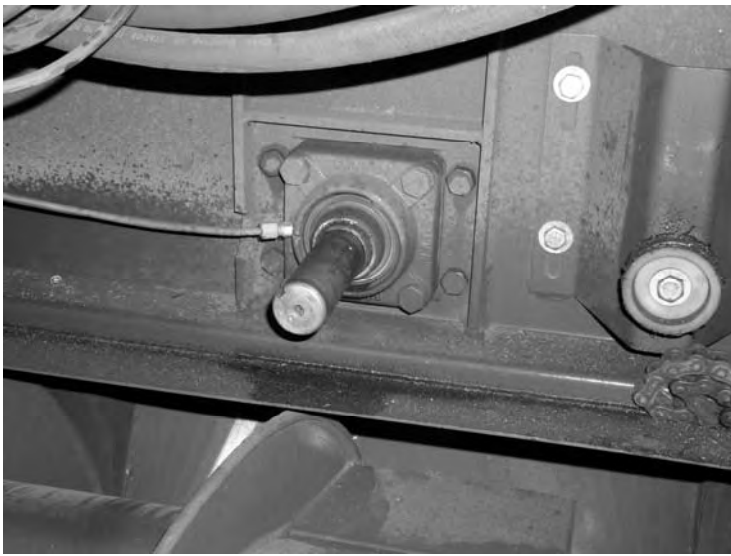

Figure 1
1. Remove driveline from end of threshing cylinder. Alignment jig (part # 510190) will need to fit on shaft a minimum of 2" in most cases. The sprocket will also need to be removed from the cylinder shaft to allow the proper fit of the alignment jig. (Figure 1)